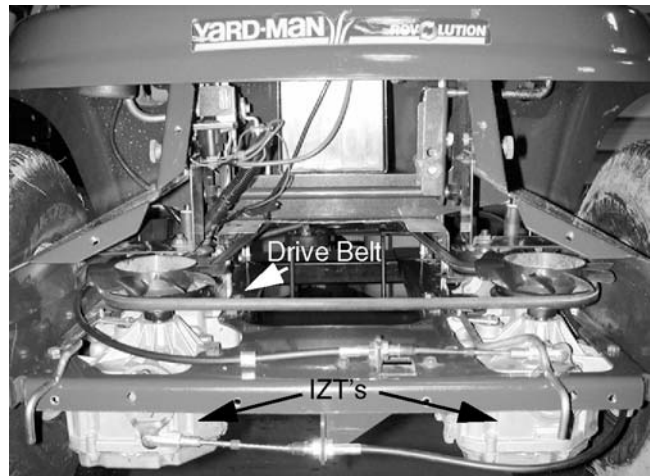

Figure 11-18
13. Remove the rear cover. See Figure 11-18.